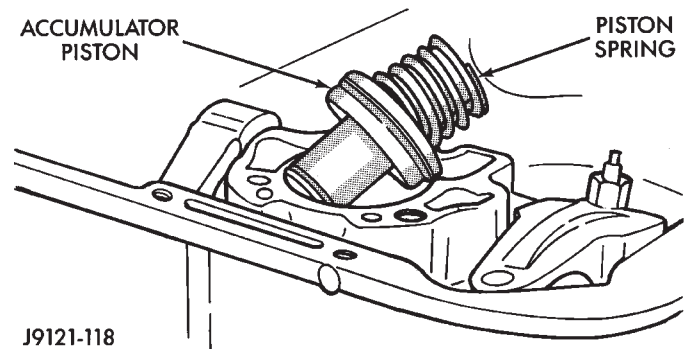

Fig. 160 Installing Accumulator Piston And Spring
(1) Install new manual lever shaft seal in case. Use 15/16 deep well socket to install seal.
(2) Make sure neutral switch has **not** been installed in case. Remove switch if necessary as it will interfere with valve body installation.
(3) Install new seal rings on accumulator piston (Fig. 160). Lubricate accumulator piston, seals and accumulator bore with transmission fluid.
(4) Install accumulator piston and spring (Fig. 160) in case.